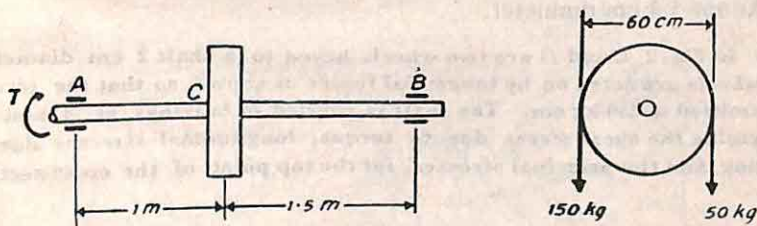

Fig. 1
12. A steel shaft, supported in bearings *A* and *B* at its ends, carries a pulley at *C* as shown in Fig. 1. Power is applied by a torque *T* at *A* and taken off through a belt overrunning the pulley, the tensions in the two branches of the belt being as shown. The allowable stresses for the shaft in tension and shear are  $800 \text{ kg/cm}^2$  and  $400 \text{ kg/cm}^2$ . Find the diameter of the shaft.